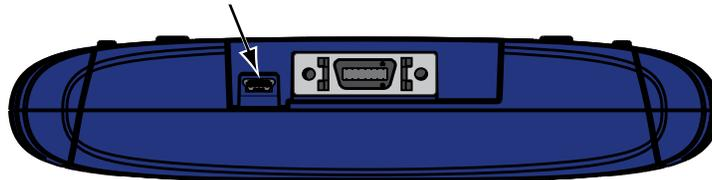

Figure 2-5 Sample MICROSCAN III USB port location
- MICROSCAN III—type mini A USB port on top of the unit (Figure 2-5).